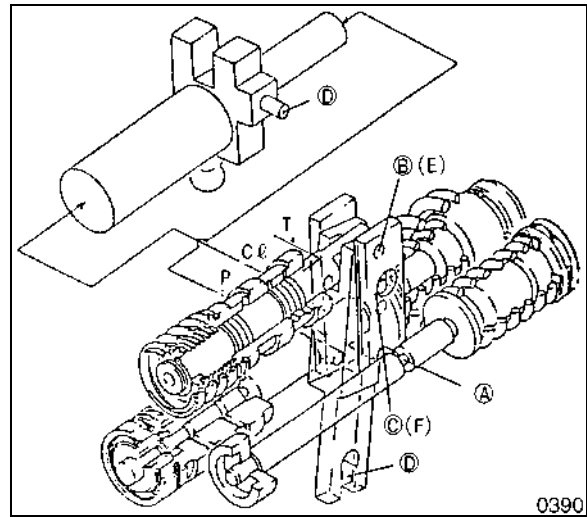
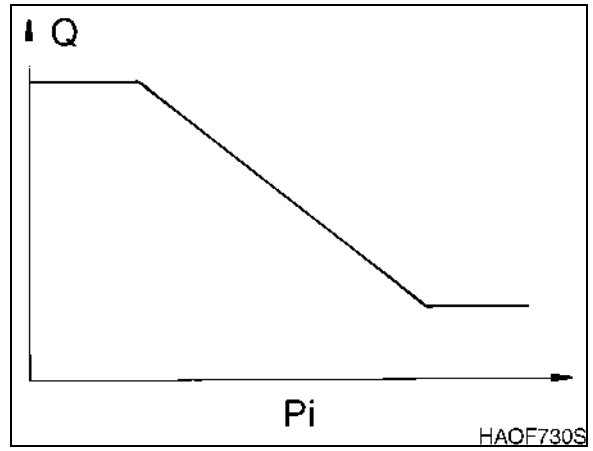
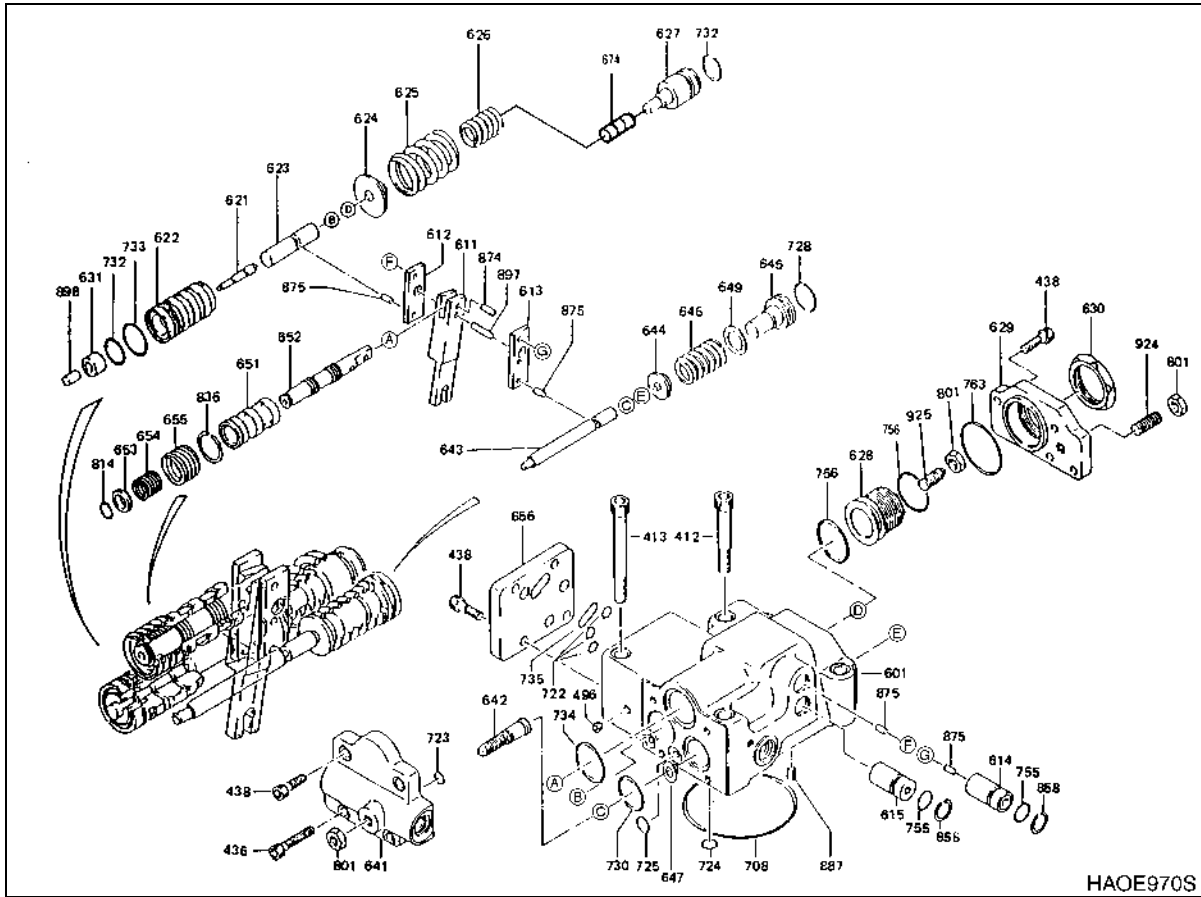

Figure 6
Figure 7
Figure 8
The relationship between Pump Displacement Flow (Q on the vertical axis) and Pilot Pressure (Pi on the horizontal axis). Pump output discharge is controlled by increasing or decreasing pilot pump pressure (Figure 7).
NOTE: Component parts (numbered in parentheses) correspond to those in Figure 8.
NOTE: *In Figure 6, the circled capital letter "D" at the lower end of the feedback lever shows the approximate location where the assemblies shown in Figure 1, Figure 6 and Figure 8 react as the pin (897) at the top of the feedback lever moves and the piston shifts, maintaining dynamic balance through the valve between pilot pressure (P_i) and discharge output flow (Q) as shown in Figure 7.*
The regulator feedback lever assembly is also pin-connected to the outermost spool (652) in the discharge port (C1) of the regulator (Figure 8). As that spool moves toward the right, in response to differences in servo pressure, the servo piston moves to the right, resulting in a decreased swash plate tilt angle and reduced pump output flow. The system is balanced and control movement of the spool (and servo piston) stops when the outermost spool (652) and spool sleeve (651) close into each other, shutting off oil movement.
When pilot pressure (P_i) decreases, the pilot piston shifts toward the left and the feedback lever assembly pivots around point "D" (Figure 6), pushing the spool and servo piston left. Swash plate tilt angle is heightened and pump output flow begins to increase as a result. Control movement of the spool and servo piston stops when the feedback lever assembly rotates around point "C" (Figure 6), moving the spool to the right until it slides into the sleeve (651) and oil movement is blocked.
Maximum and minimum discharge flow, horsepower control characteristics and discharge control characteristics can all be modified by changing the position of adjustment screws built into the pump housing (Figure 1) and the end plate of the regulator valve (Figure 8).